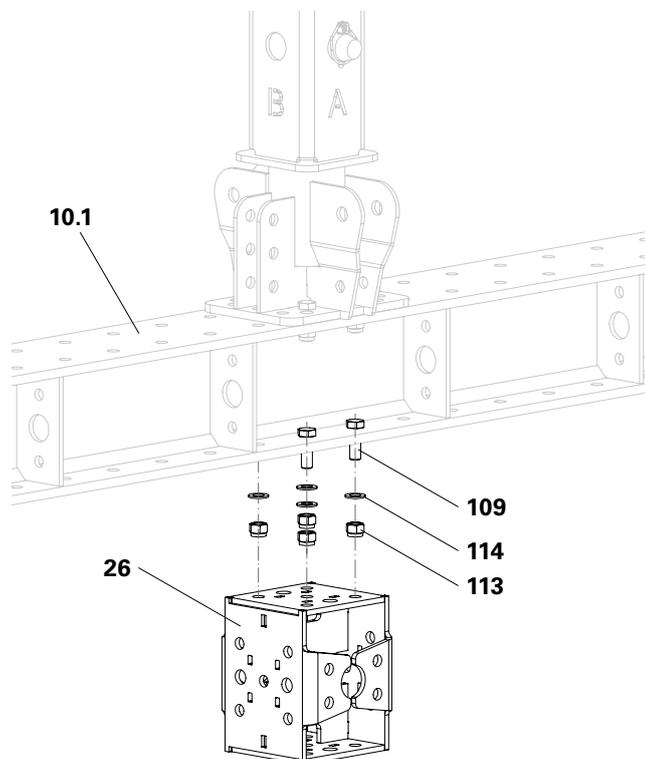

Fig. B2.16
- With the Crane Rail S49, the Support Wedge Box is mounted vertically. (Fig. B2.16)